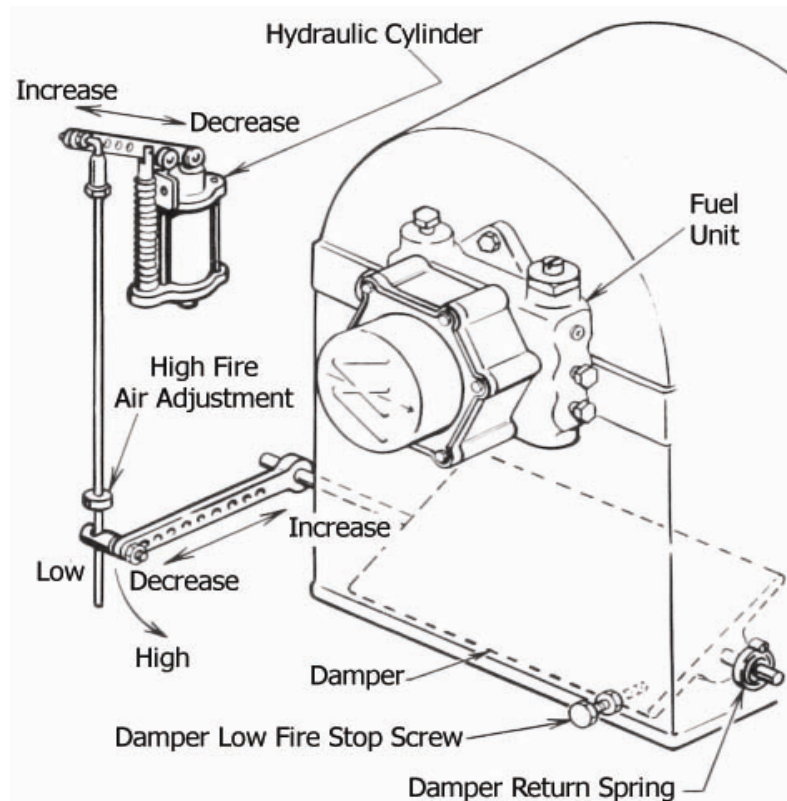

FIGURE 4-3. Air Adjustments: Oil Burners
Oil flow to the nozzle is controlled by three solenoid valves. The high pressure safety shutoff valves (N.C.) prevent flow to the nozzle except upon command of the flame safeguard system. The other valve (N.O.) controls the low fire rate. The N.O. solenoid bypasses oil from the fuel unit through the low pressure regulating valve. When the high fire switch is actuated, the N.O. valve closes and full fuel unit pressure is delivered to the nozzle. Oil pressure actuates the hydraulic cylinder to open the air damper, which is spring-loaded to return to the low fire position (see Figure 4-3).
2. Switch the controls to high fire position. The hydraulic cylinder will extend and open the damper to increase air flow. Without disturbing the low fire setting, adjust air volume for required high fire setting. This is usually less than No. 2 smoke and 10% to 13% CO2. Adjust by positioning the damper linkage (refer to Figure 4-3). The linkage should be adjusted so that the air/oil ratio is correct when the cylinder reaches the end of its travel.